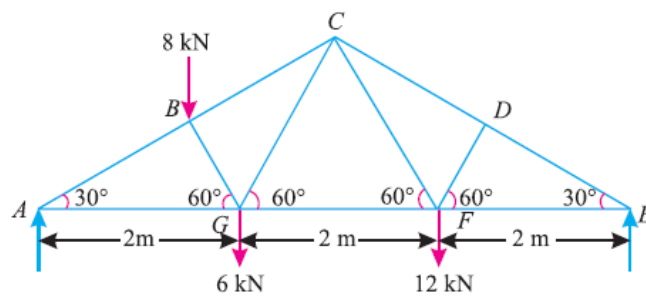

fig.29
2. Analyze the members of a inclined truss loaded as shown in fig.29 [10 M]